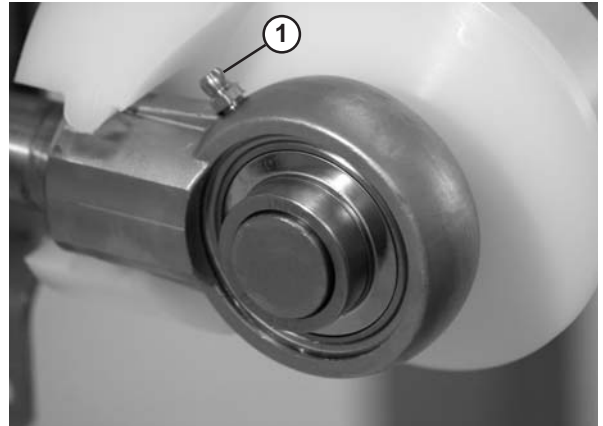

Figure 50
1. Add grease to the bearing using the zerk fitting (**Figure 50, item 1**) on the exterior of the bearing shaft assembly.